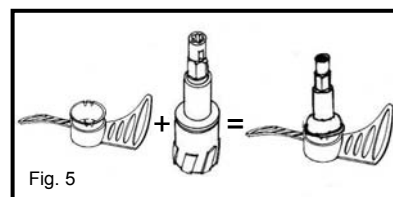

Fig. 5
2. Insert the whipper onto the spindle. (Fig. 5)